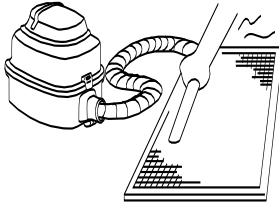

Fig. 1
- The air-in side should be face up when using vacuum cleaner. (See Fig. 1)